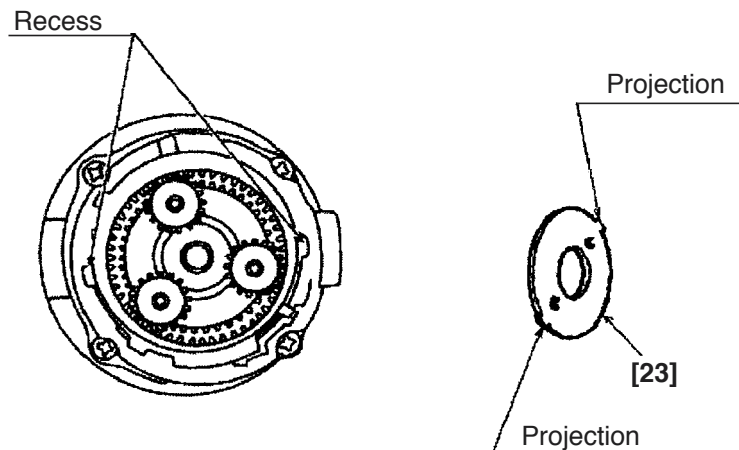

Fig. 10
- (iii) Install Washer (B) [23] in the Rear Case [14] with the projections of Washer (B) [23] engaged with the recesses in the Rear Case [14], and turn Washer (B) [23] clockwise until it can turn no further. (See Fig. 10.)